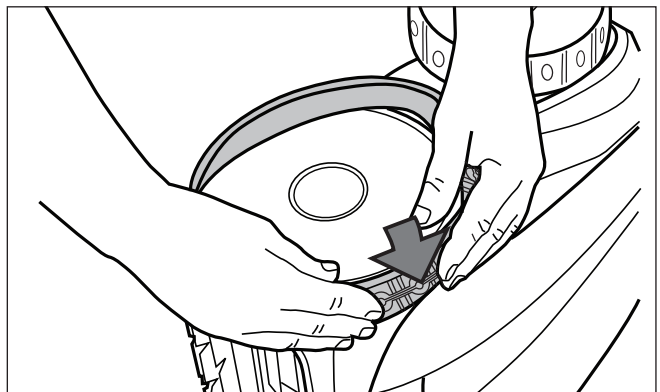

Figure 31. Start on One Side of the Tire
5. Push one side of the tire on to the wheel and fit the rib of the tire in the groove of the wheel (Figure 31).